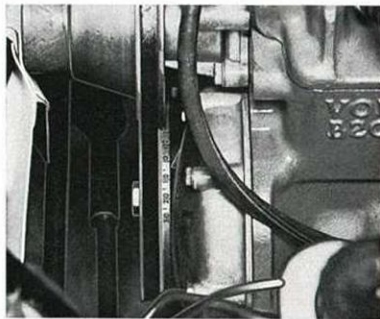

Fig. 3-108. Graduation for ignition setting
1. Clean the pulley so that the graduation marks can be seen, see Fig. 3-108.